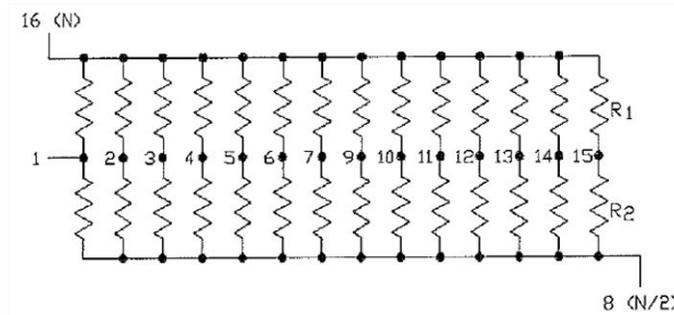

Fig. 3
For the schematic shown in Figure 3, the equivalent resistance between the two busses is calculated using the following formula:
To illustrate this, the schematic shown in Fig. 3 is simplified as follows:
**STEP 4:** Calculate the third and last, “ $R_2$ ” equivalent resistance measurement, which can be made between pins 1, 2, 3, ..., N-1 (excluding pin N) and the common pin N/2. To illustrate this, the schematic shown in Fig. 3 is simplified as follows:
STEP 1: Referring to Fig. 3, compute the current flow through on  $R_1 + R_2$  series branch as follows: